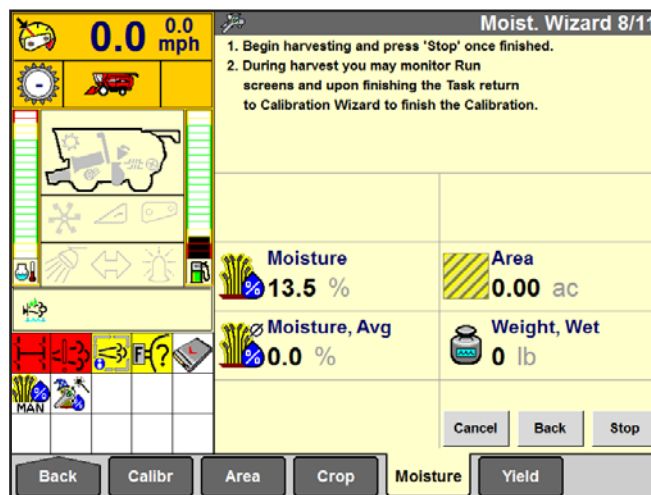

Figure 23.3
- Intuitive screens allow operators to input actual crop moisture and weight values (see figure 23.3)